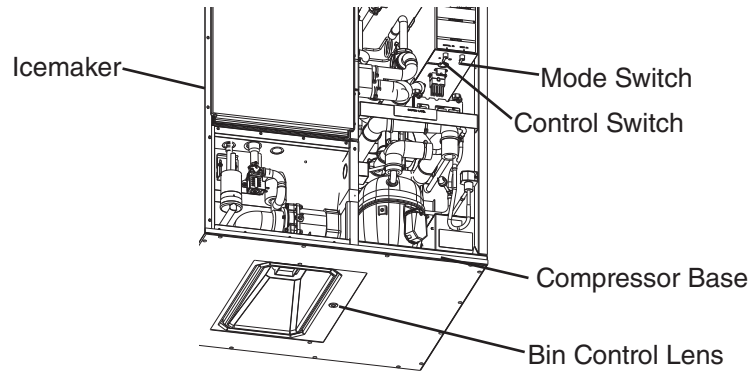

**Fig. 14**
- 4) Confirm the control board "BIN CLS" LED is off (bin empty). See Fig. 14.